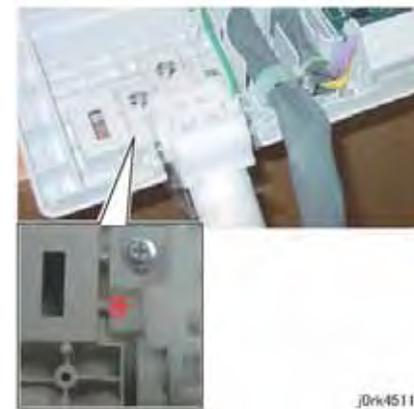

Figure 1 Graduation Scale Marks
4. Take note of the graduation of the scale. (Figure 1)